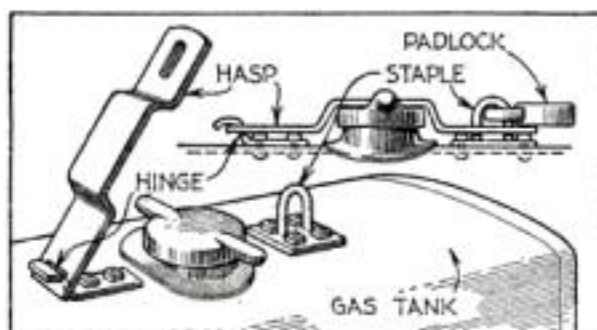

Fig. 2. Locking your gasoline filler cap in this way will prevent those mysterious losses of gasoline that sometimes occur on motor tours
**T**HE tourist and auto camper often finds his gas tank mysteriously empty after a night spent in a strange camp or if the car has been stored in a strange garage. Petty thievery of this kind can be stopped by fitting a lock to your gas tank filler cap as shown in Fig. 2. The hasp and hinge are cut out of heavy sheet iron. The staple is obtainable in a hardware store. Bend the end of the hinge so that